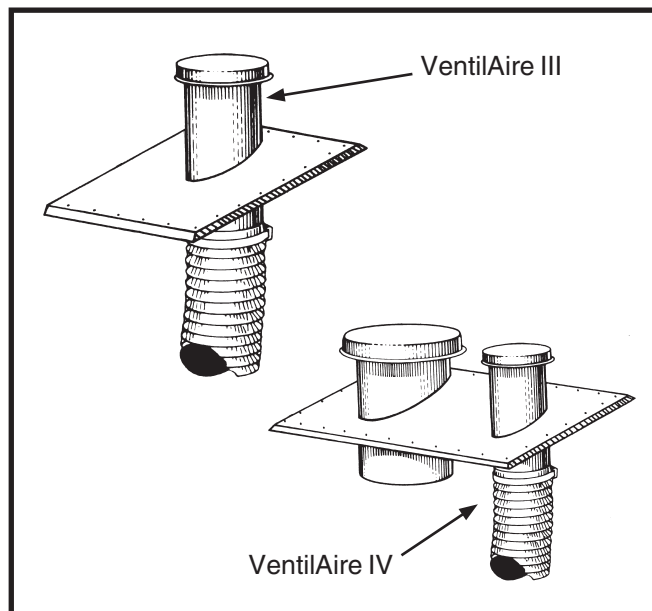

Figure 5. VentilAire III & IV
The VentilAire air quality accessory packages are available to meet the ventilation requirements as outlined in H.U.D. Standard Part 3280.103 (b) (2). These packages introduce outdoor air into the living space during furnace blower operation. The VentilAire IV also serves to exhaust moist and/or hot air from the attic space. See Figure 5 for typical installation. Complete installation instructions are supplied with each air quality package.
4. Evenly align the filter over the opening in the top of the furnace cabinet and position the other end of filter retainer up over the flange in the furnace's top panel. **NOTE:** To properly secure the filter, make sure the filter retainer is properly positioned in the top panel of the furnace. There should be no visible air gaps. The retainer may slide left or right slightly, but must not have any movement between the front and rear. See Figure 5.